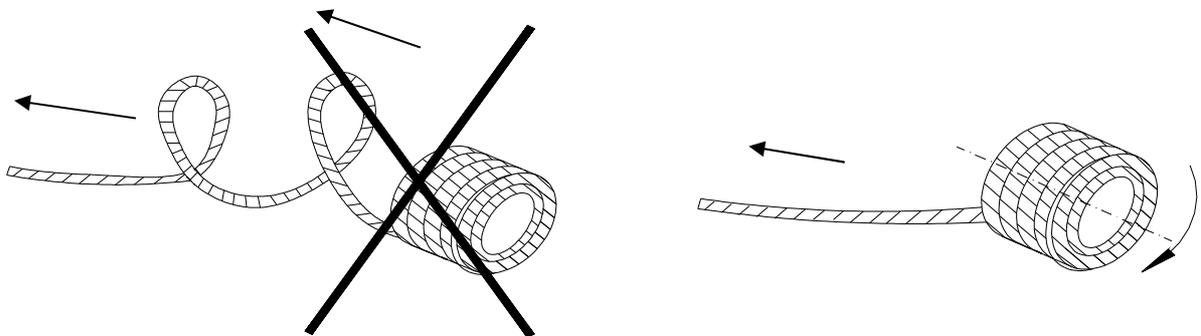

Fig. 10-2-1
- 1) Completely unwind the rope on the clean ground, avoiding any twist (see **Fig. 10-2-1**). If it is not possible to lie out the whole rope completely, unwind it in large loops. In this way, dangers can be avoided from occurring when the wire rope is wound on the drum.